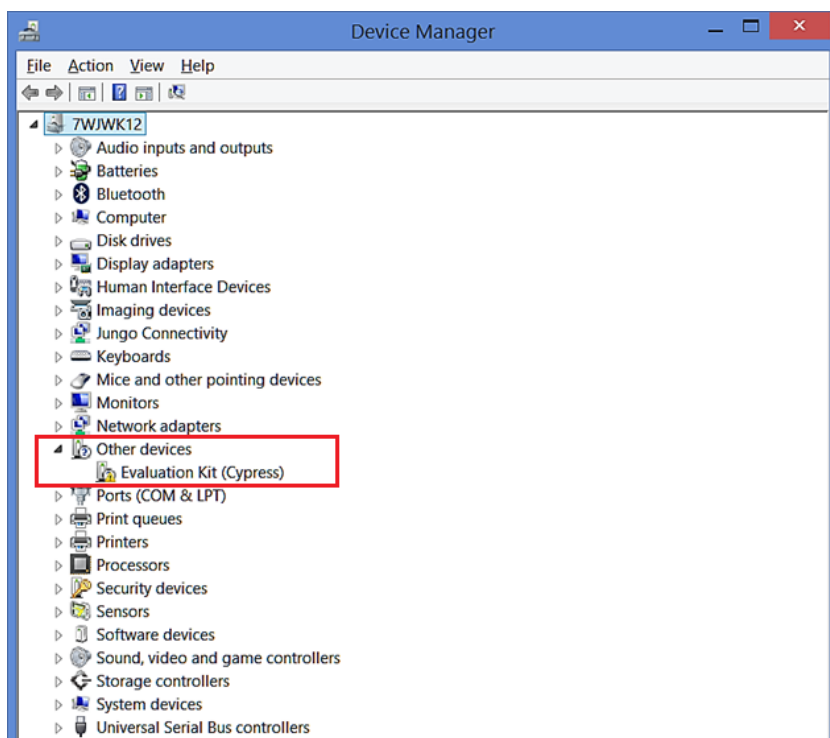

Figure 88. Device Manager View
- Open the Device Manager where you should find the "Evaluation Kit (Cypress)", as in *Figure 88*.